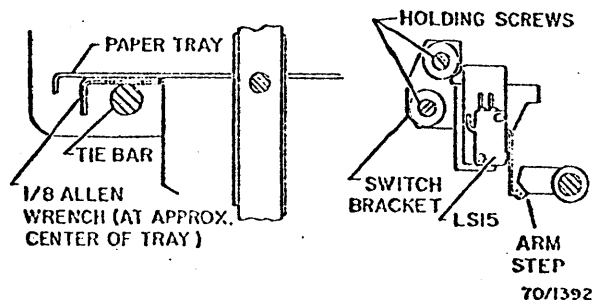

Fig. 3-28. Tray Down Limit Switch
1. Position the tray (left view of Fig. 3-28) by joggling the paper tray position switch.